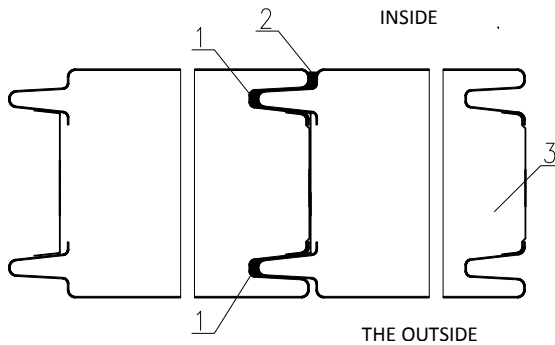

fig. 10
j. To avoid thermal bridges in IzoCold coldstore panel joints, resulting from the PIR core shrinkage, any gaps should be filled with polyurethane foam applied on site during assembly (Fig.10).